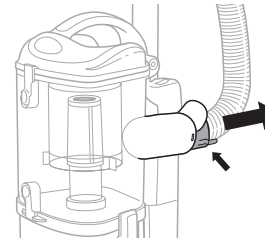

Fig. 23
- Detach the hose from the back of the portable canister by squeezing the tabs together and pulling up. **(Fig. 23)** Straighten out the hose and look inside for blockages.